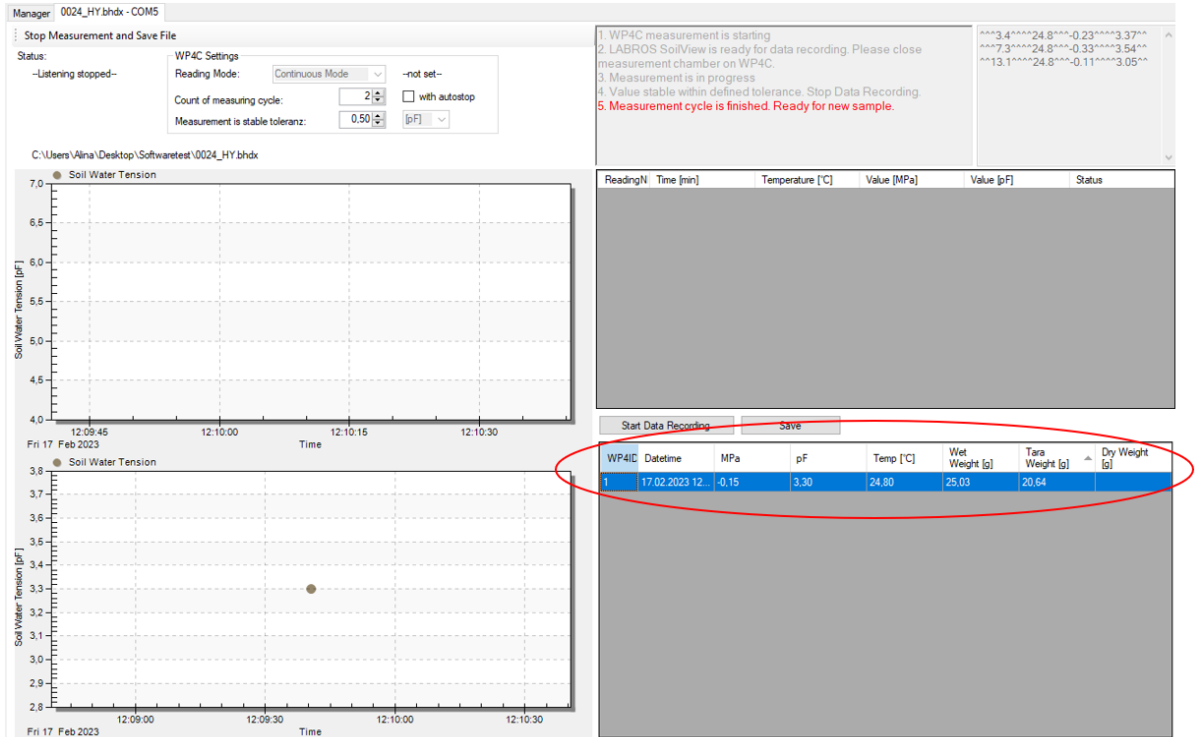

Figure 6 Result Table
8. When using Fast or Precise mode only one data point is recorded and the measurement stops automatically. When using Continuous mode the software records as many data points as defined in the profile Count of WP4C Data Points. The software will verify if the datapoints are within the defined tolerance; if so stop the measurement by pressing the button Stop Data Recording. The software stops automatically if Autostop is selected. The average is calculated and displayed in the lower table on the right (Figure 6). If the values are not within the defined tolerance the measurements continue.
9. Once measuring has stopped the soil sample must be removed from the measurement chamber and weighed immediately. The wet weight of the sample as well as the tare weight of the cup may be entered directly into the lower table on the right (Figure 6).